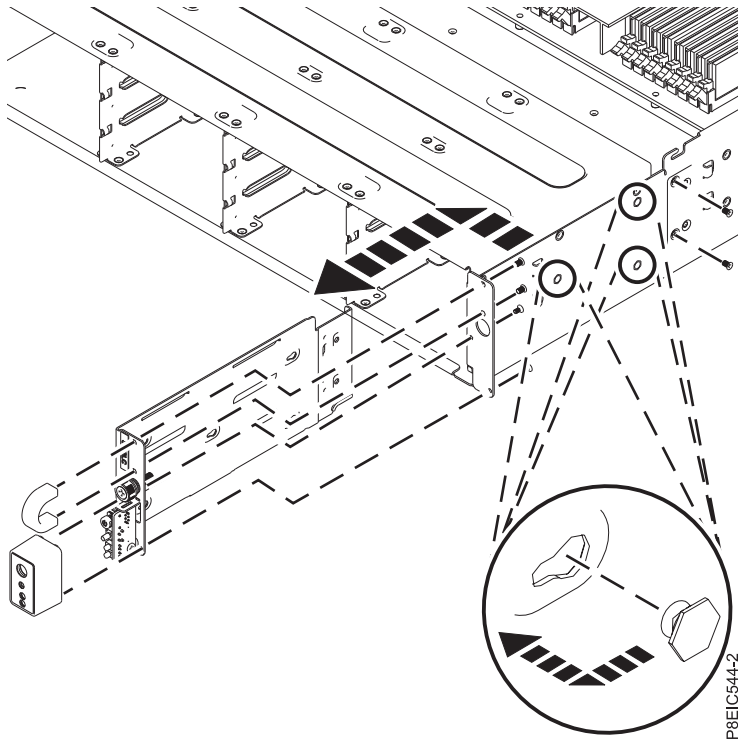

Figure 61. Removing the power switch and cable
5. Remove the four screws that secure the power switch bezel and handle to the power switch assembly, as shown in Figure 61 on page 54.
6. Remove the two screws that secure the power switch assembly from the side of the chassis, as shown in Figure 61.
7. Pull the power switch assembly forwards, then detach the power switch assembly away from the side of the chassis, as shown in Figure 61.